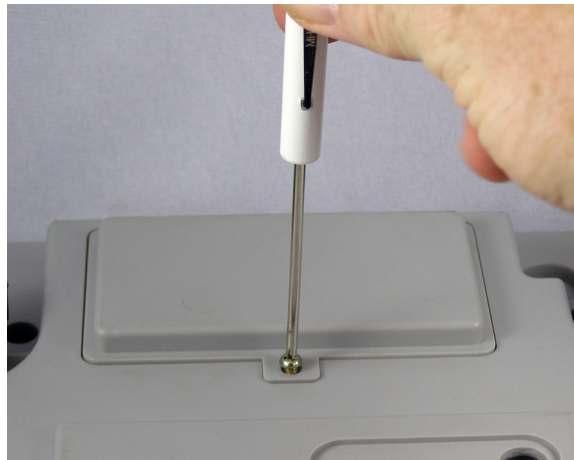

Figure 2.1 Removing the battery compartment lid screw
1. Remove the screw in the battery compartment lid on the bottom of the scale. See Figure 2.1.